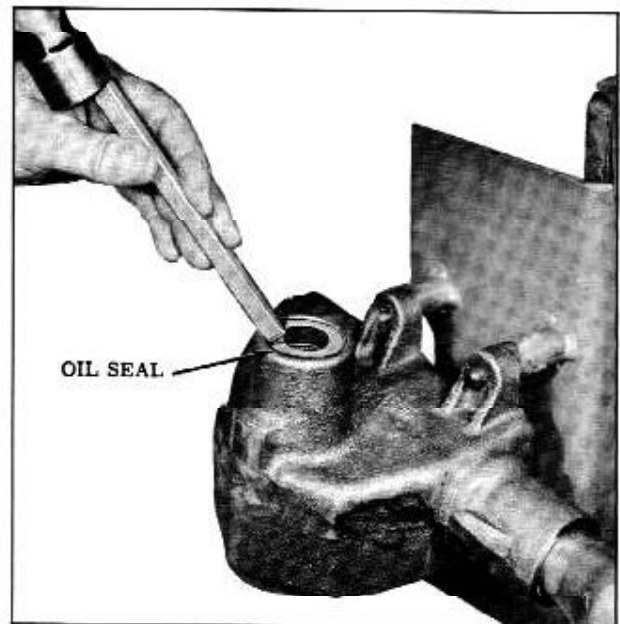

Fig. 4-12 Removing Pitman Shaft Seal
1. If pitman shaft seal ONLY is to be replaced, use a small chisel to collapse the seal so it can be lifted from the housing (Fig. 4-12)